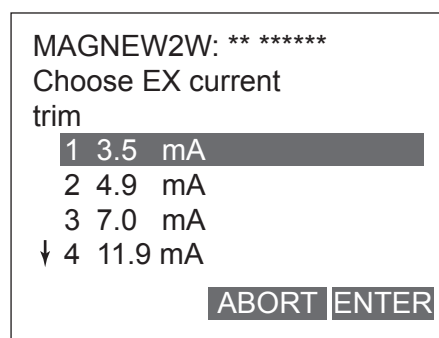

Figure 7-59
2. Once the display as shown in Figure 7-59 appears, move the arrow key up or down to select an excitation current to adjust, and then press F4 (ENTER). This time, select 3.5 mA.